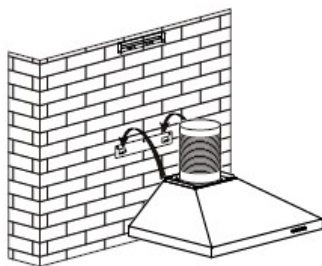

Fig. 4
4. Mount the air outlet on the body of the cooker hood using 2 ST4 * 8 mm screws. Then mount the air outlet converter on the outlet. Attach the expansion pipe to the converter and tighten it with a cable tie. See Fig. 3. Then mount the cooker hood body on the hook and secure it with 2 ST4 * 30 mm locking screws, see Figs. 4 and 6. Note: Two 6 mm safety ventilation holes are located on the rear cover.